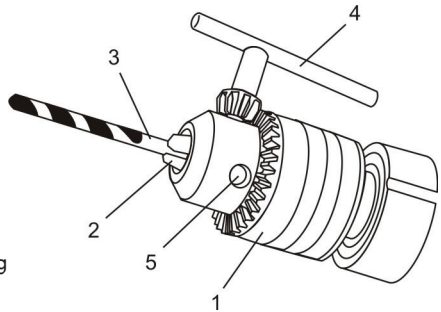

Fig. 4
2. Rotate chuck collar (1) in a counter clockwise direction until the chuck jaws (2) open wide enough to accept the bit (3) (Fig. 4).